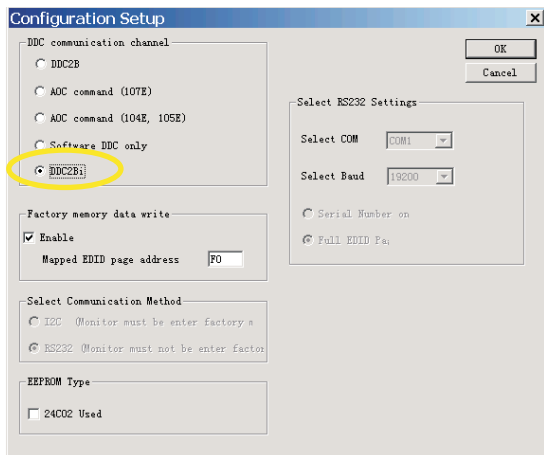

Fig.40
1. Configuration should be as Fig. 40. And press OK.